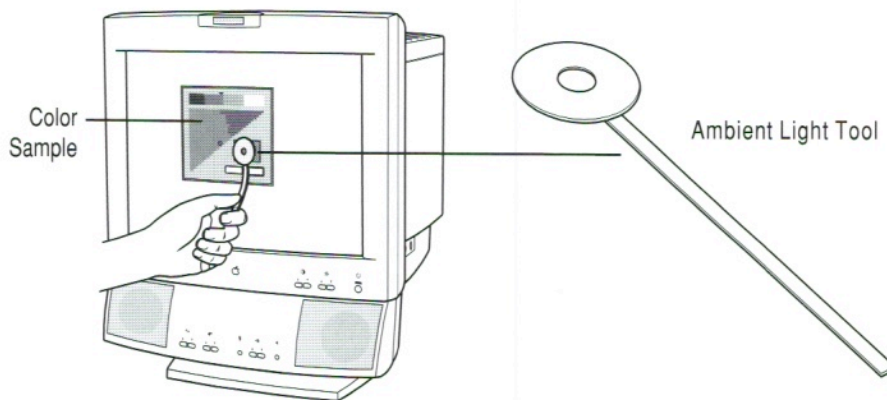

Figure 27. Ambient Light Tool
3. Locate the ambient light tool (see Figure 27) that came with the display.